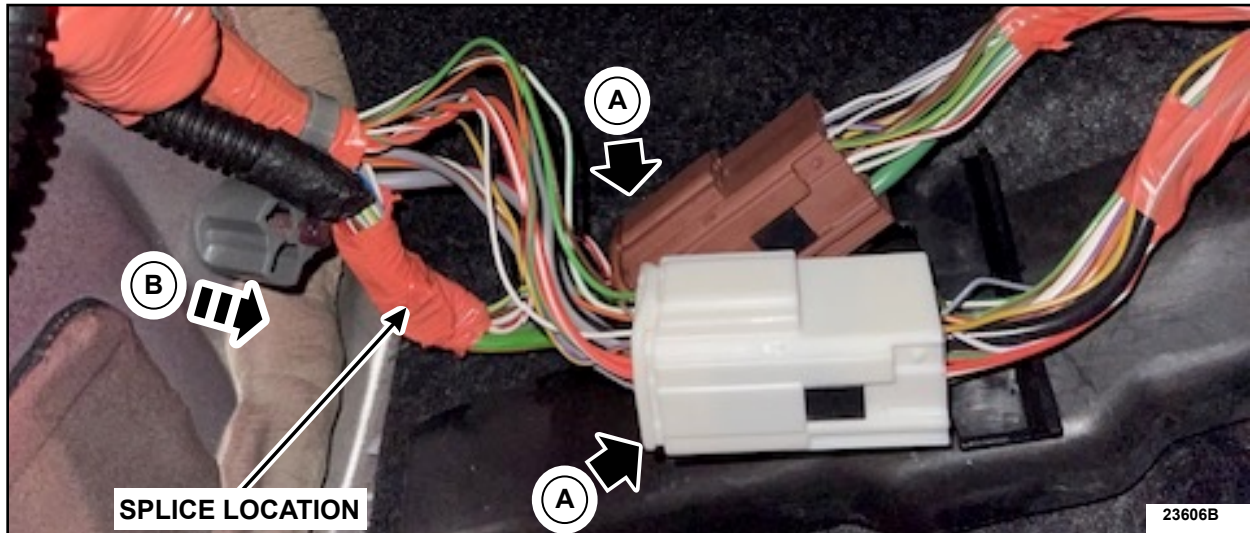

FIGURE 2
3. Position aside wiring harness. See Figure 2.
- a. Disconnect the electrical connectors (A).
- b. Detach the wiring harness retainer and position the wiring harness aside (B).